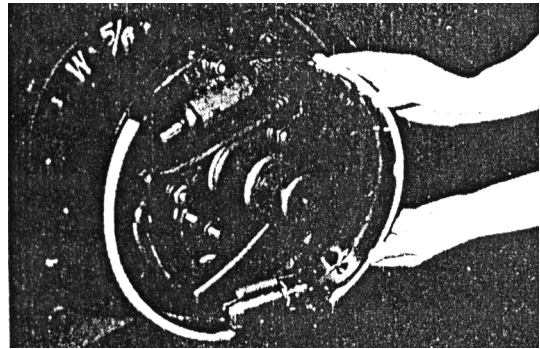

Fig. 8-12
(4) Remove the primary and secondary shoes, at the same time, remove adjuster spring. (See Fig.8-12)